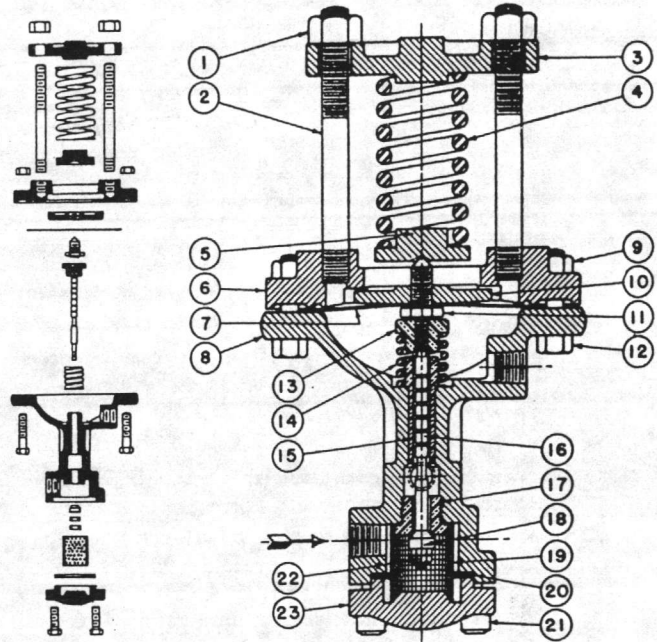

Fig. 4 — Type D Pilot
- d. Dust sifted on to pilot pressure plate (10), Fig. 4, may prevent closure. See J1b3.
- d. Sticking or binding of pilot stem (16), Fig. 4. Look for deposits of compound or bits of scale on it and in bushing (15).
3. Check for dust or other air borne material which may have sifted onto the upper face of pilot pressure plate (10), Fig. 4. An accumulation here can obstruct closure of the pilot. In a very dusty atmosphere an enclosed spring chamber should be used.
a. Pilot — Fig. 4
1. Remove compression on spring (4).
2. Remove diaphragm bolts (12) and take off cowl (6) and diaphragm (7).